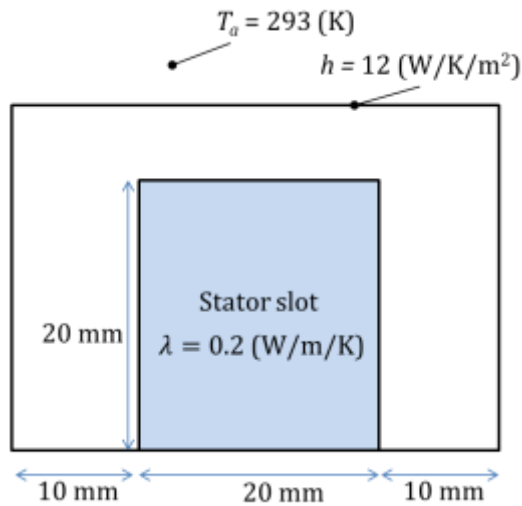

Figure 4
- a. Use analytical techniques to calculate the flux per pole for the motor. (5)
- b. If the rotor has a total of 1532 conductors, connected in two parallel paths by the brushes, calculate the speed EMF constant for the motor and the corresponding no-load speed when operating on a 100V dc supply. (5)
- c. The rotor winding has an effective resistance of 3Ω , calculate the stall-torque at 100V supply and show whether or not the motor can tolerate starting under these conditions without demagnetizing the magnets. (5)
- d. What are the major design factors that limit the torque density, and why? (2)
- e. What are the ideal back-EMF and current waveforms for brushless DC and brushless AC machines? If the waveforms are non-ideal, what are the consequences? (3)
4. a. Assuming excitation winding carries a peak ac current of $\sqrt{2}I_c$ at a frequency of $\omega = 2\pi f$, derive the general expressions for the airgap field distributions produced in a cylindrical electrical machine by a single-phase winding and a three-phase winding respectively. This machine has p pole pairs, an airgap length L_g and a total number of turns N . (8)
- b. Describe the main characteristics of the airgap field produced by single-phase winding and three-phase winding. (4)
- c. List possible ways to minimize the harmonics in airgap field produced by single-phase winding. (3)
- d. Derive expressions for the corresponding airgap winding inductances for both single-phase and three-phase windings. (5)
5. A radial field electrical machine has 12 slots. Figure 4 shows the cross-section of a single stator slot, with relevant dimensions. The equivalent thermal conductivity is $\lambda = 0.2$ (W/m/K). The lamination active length is $L = 50$ mm in the axial direction. The machine is cooled via convection and radiation to the surrounding air with a temperature $T_a = 293$ (K). Assuming the resultant radiation and convection coefficient is $h = 12$ (W/K/m²).